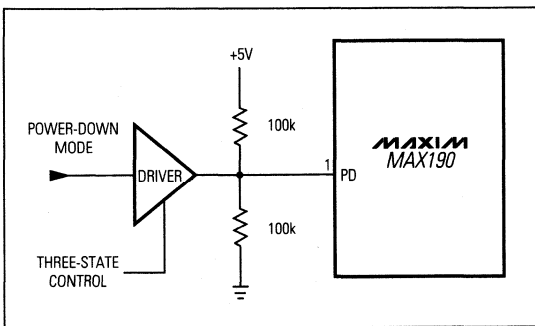

Figure 11. Drive Circuit for PD Pin
In some battery-powered systems, it is desirable to power down or to remove power from the ADC during inactive periods. To power down the MAX190, Power Down (PD) should be set to low. In this mode, all internal ADC circuitry is off except the reference circuit, which consumes less than  $50\mu\text{A}$  (assuming all signals  $\overline{\text{CS}}$ ,  $\overline{\text{RD}}$ , CLK, and HBEN are static and within 200mV of the supplies). To initialize the MAX190 at power up, perform one read operation with HBEN low and disregard the data outputs. Figure 11 shows a practical way to drive the PD pin.